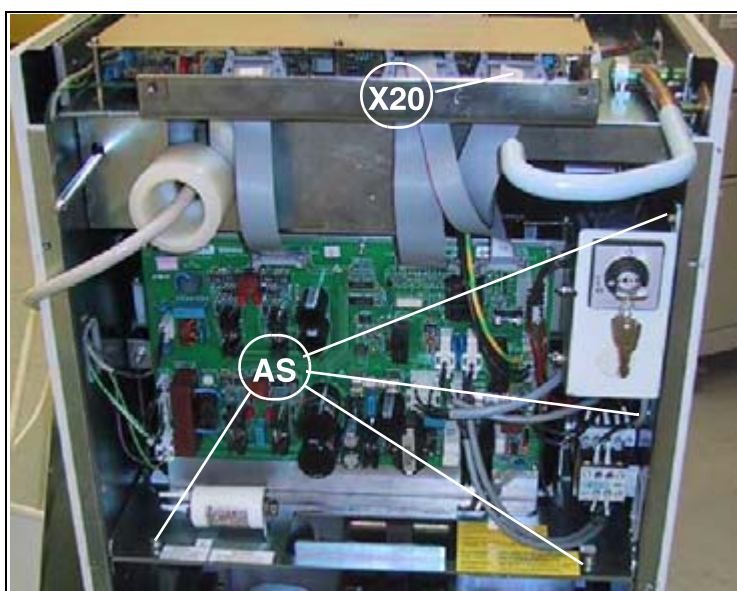

Fig. 25: Capacitor bank attachment
- Loosen the mounting screws of the capacitor bank (AS/Fig. 25 / p. 41).